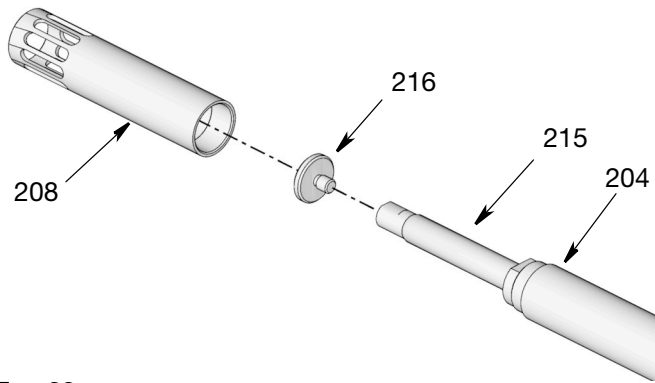

FIG. 29
15. The pump cylinder is comprised of three separate sections. First separate the shovel cylinder section (208) from the pump cylinder (204) using two pipe wrenches, working in opposite directions to loosen the shovel cylinder. When cylinder (208) is loose enough, use your hands to unscrew and remove it from the other sections (FIG. 29).
HP Pump: Use wrench on the flats of the priming rod (215) and socket to loosen and remove the shovel piston (216) (FIG. 29).